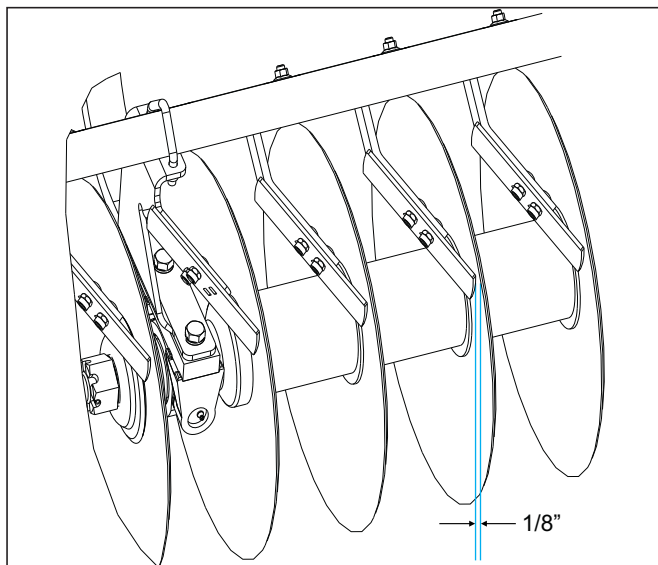

Figure 4-13: Scraper Adjustment
1. Rigid scrapers should be set initially as close to the disc blade as possible without rubbing (approximately 1/8") **See Figure 4-13**. A slotted hole at the top of each scraper is provided for individual adjustment. Adjustments may be made for entire gangs, by loosening the u-bolts around the angle-iron scraper bars and sliding the whole bar. Scraper arms are made of spring steel. In wet conditions, the scraper may be set against the disc blade and can function as a spring-loaded scraper.